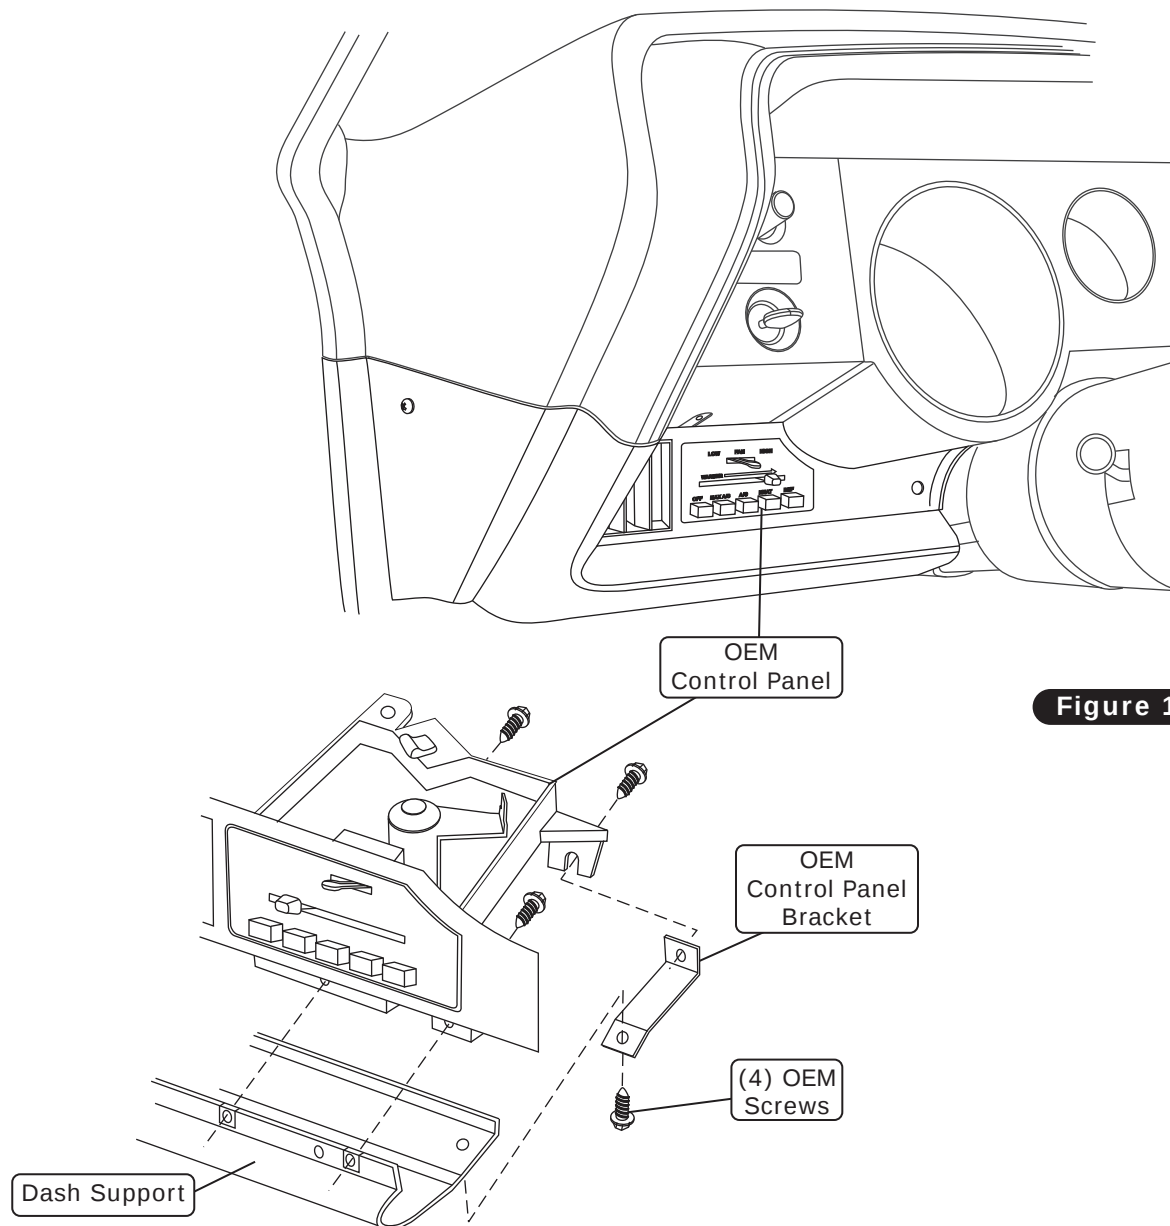

Figure 1
2. Remove the OEM control panel (discard) (See Figure 1, below).